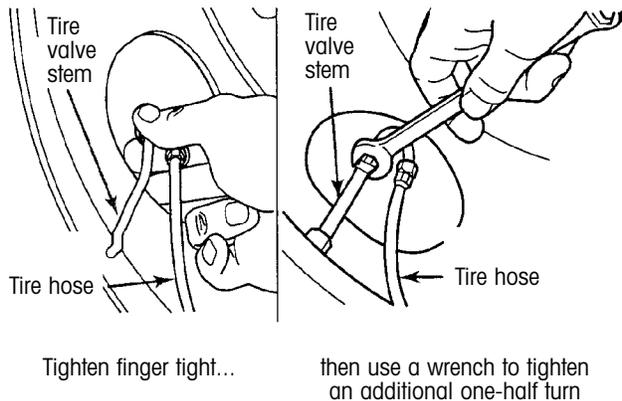

Figure 6. Attaching the tire hose to the tire valve stem
- Attach the tire hose(s) to the tire valve stem(s) and tighten finger tight (figure 6).
- Using a $\frac{7}{16}$ -inch wrench, tighten the tire hose/valve stem connection an additional one-half turn (figure 6). **Do not overtighten this connection.** The hose and tee connections are tight enough when moving the hose back and forth does not cause the connection to move.